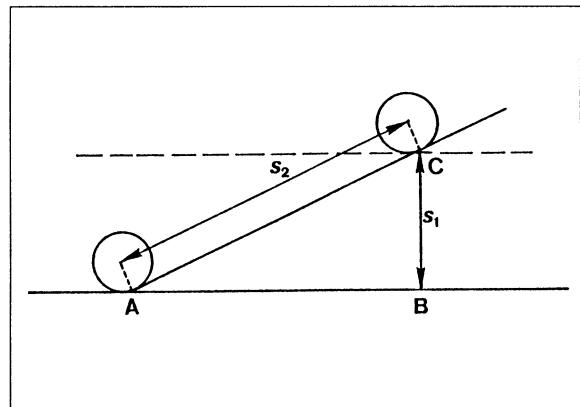

Fig. 3 Distances describing the inclined plane
8. Position the double pulley (with no weights attached) at the bottom of the rail. ► Point A in fig. 3.